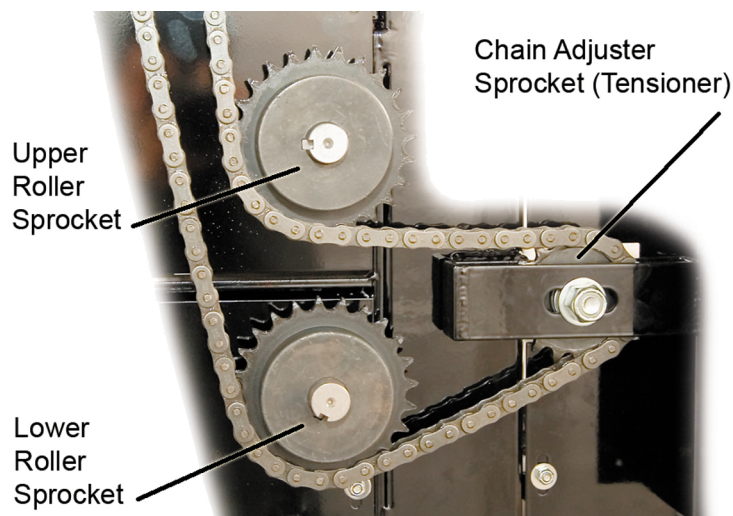

Figure 3
3. It will be necessary to slacken the tension on the drive chain via the chain adjuster sprocket (see figure 3).
3. Slacken the chain adjuster sprocket and remove the roller sprockets from the roller shafts. It will be necessary to loosen the two X/X set screws from each sprocket before removing the sprockets from the roller shafts. The chains can then be removed from the machine to give full access to the bearing blocks (see Figures 3 and 4)